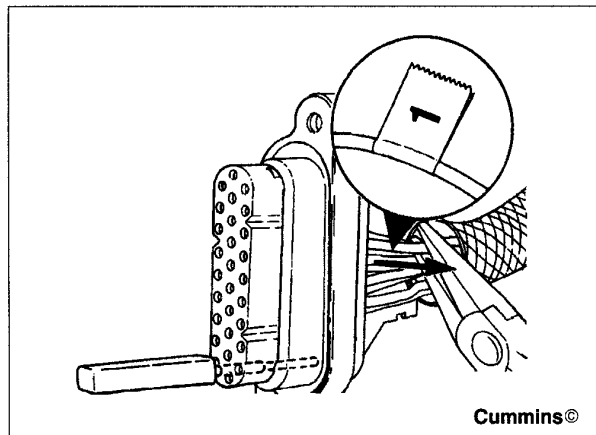

Figure 83 Attach Tag to Terminal Connection Wire
4. Hold the tool in the connector and pull the terminal out of the connector. Attach a tag to the terminal connection wire and mark it number one (Figure 83).